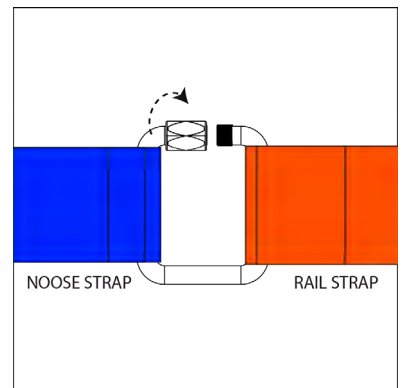

Figure 57
- Close the Quick Link by rotating the nut. Fully close the screw gate of the quick link before tensioning the strap. Failure to close the screw gate will damage the quick link. (Fig. 57)